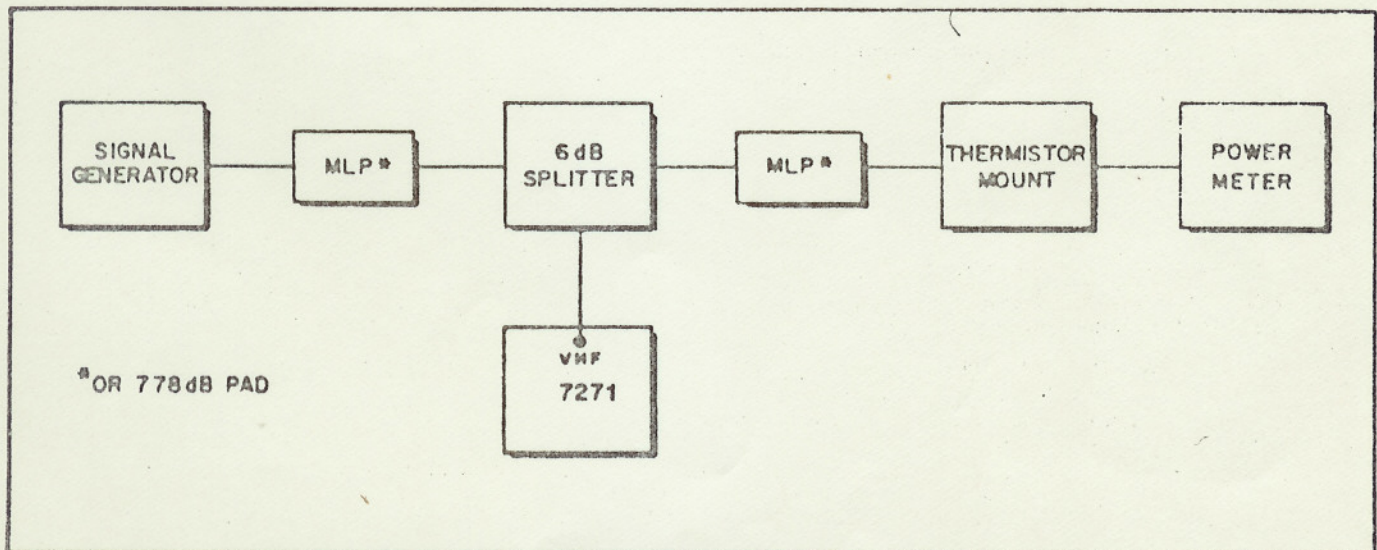

Fig. 5-2. Setup for Tuner Compensator Calibration by the Power Meter Method
For accurate calibration it is important that the output impedance of the signal generator be 75 ohms. Where an r-f signal generator with an output impedance of 50 ohms is used, a 50/75-ohm minimum loss pad must be inserted between the generator and the splitter (Fig. 5-2). As the input impedance of the HP power meter is 50 ohms, a similar minimum loss pad is required for the power meter method. Fixed 7.78 dB matching pads may be used in place of the minimum loss pads, bearing in mind that the
8. Connect equipment as shown in Fig. 5-2.